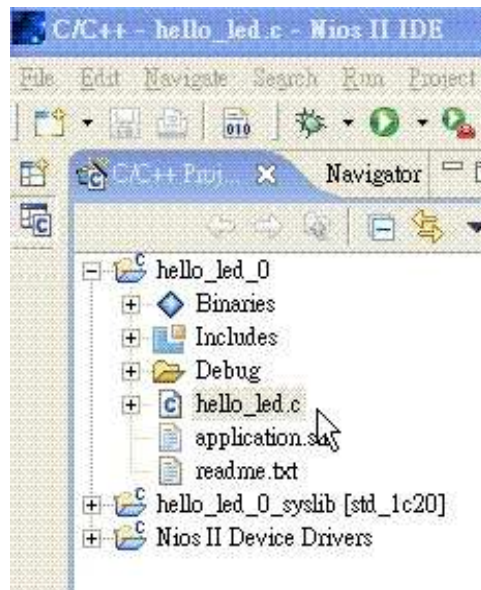

Figure 11.3. Select hello_led.c and click on the “Green Arrow” to build/run the project.
4. Click on File `hello_led.c` in the left-hand side of the window as shown in Figure 11.3.